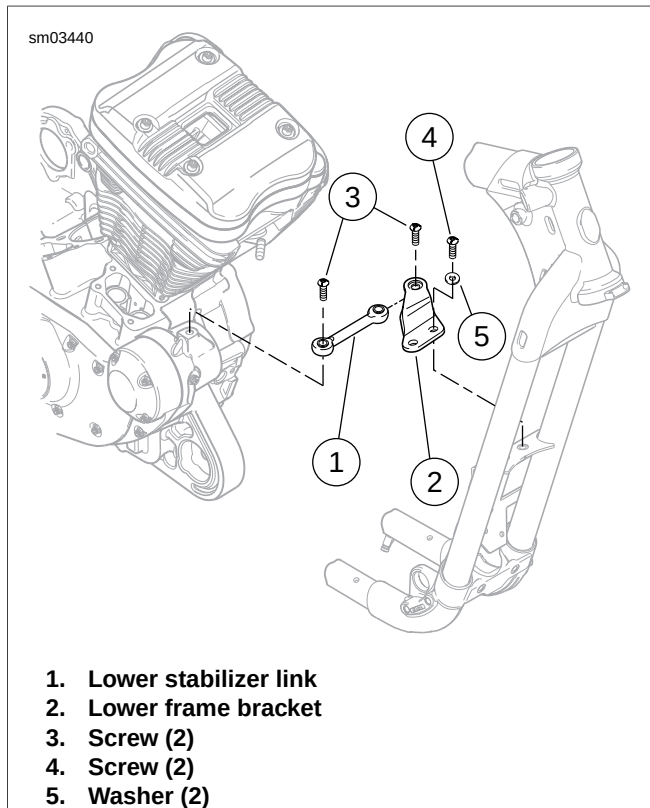
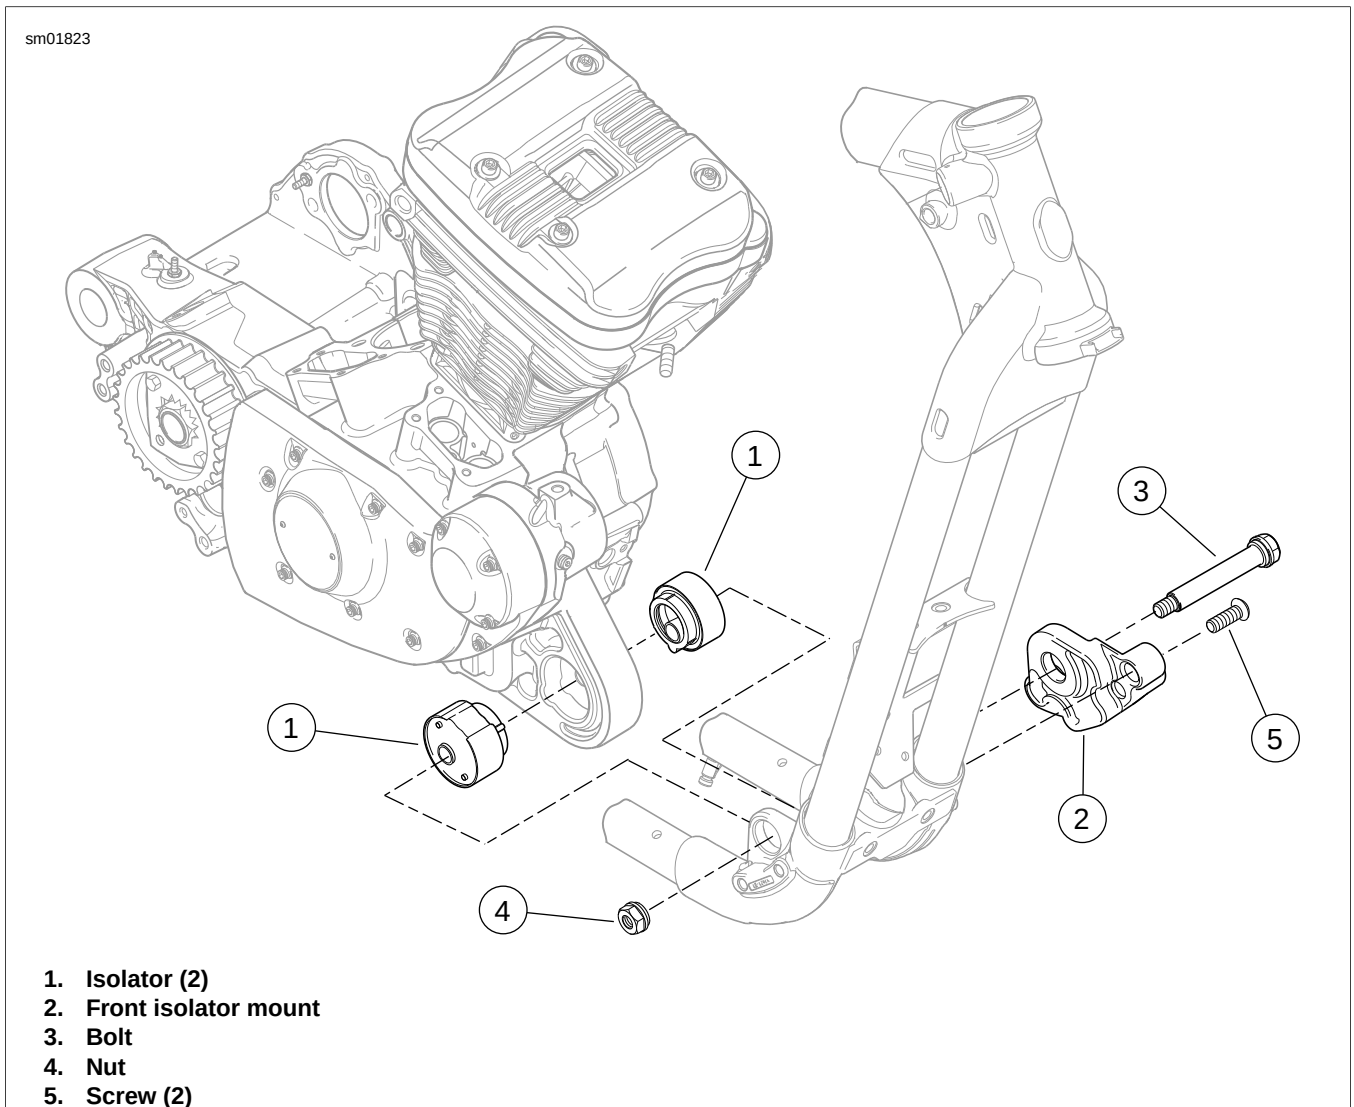

Figure 2-209. Lower Front Stabilizer Link Assembly: Typical (XL Model Shown)
Figure 2-211. Front Engine Mount/Isolator: Typical (XL Model Shown)
2. See Figure 2-209. Remove screws (3) and stabilizer link (1).
3. Remove screws (4), washers (5) and lower frame bracket (2) from frame.
1. See Figure 2-209. Install screws (4), washers (5) and lower frame bracket (2) to frame. Tighten to 25-35 ft-lbs (33.9-47.5 Nm).
2. Install stabilizer link (1). Secure with screws (3). Tighten to 25-35 ft-lbs (33.9-47.5 Nm).
5. See Figure 2-209. Remove screw (3) securing lower front stabilizer link (1) to stabilizer link bracket (2).
See Figure 2-211. In the next step, the engine may need to be jacked up or down slightly to aid in removing bolt (3).
7. See Figure 2-211. Remove nut (4) and bolt (3) from front engine mount/isolator assembly.
8. Remove screws (5) from front isolator mount (2) on left side of motorcycle. Remove isolator mount and left front isolator (1).
9. Carefully pry front end of engine to the left approximately 1.0 in. (25.4 mm). Remove right front isolator (1) from crankcase.
1. See Figure 2-211. Install both front isolators (1) in engine mounting boss on front of crankcase. Note that each isolator has a half-moon tab and fits into engine mounting boss in only one way. Push engine to the right until right isolator contacts frame boss.
2. Install front isolator mount (2) over left front isolator.
3. Install screws (5) through front isolator mount and thread into frame. Tighten to 25-35 ft-lbs (33.9-47.5 Nm).
4. Insert bolt (3) through front isolator/engine mount assembly from left side. Thread nut (4) onto bolt. Tighten to 60-70 ft-lbs (81.4-95.0 Nm).
5. See Figure 2-209. Attach lower front stabilizer link (1) to bracket (2) with screw (3). Tighten to 25-35 ft-lbs (33.9-47.5 Nm).
17. See Figure 2-209. Remove screw (3) securing lower front stabilizer link (1) to stabilizer link bracket (2).
8. See Figure 2-209. Attach lower front stabilizer link (1) to bracket (2) with screw (3). Tighten to 25-35 ft-lbs (33.9-47.5 Nm).